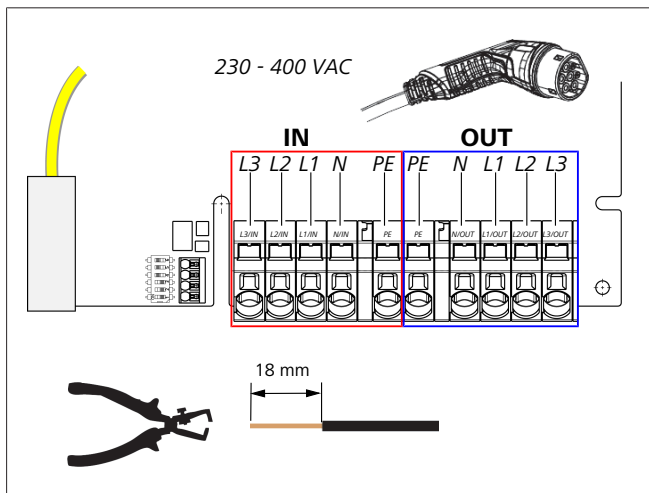

Fig. 8
- Using the slot-head screwdriver (3.5 mm), connect the individual cable ends according to the specification in the illustration (Fig. 8) on the right terminal block with the "OUT" label.
1. Using the slot-head screwdriver (3.5 mm), connect the individual cable ends according to the specification in the illustration (Fig. 8) on the left terminal block with the "IN" label.